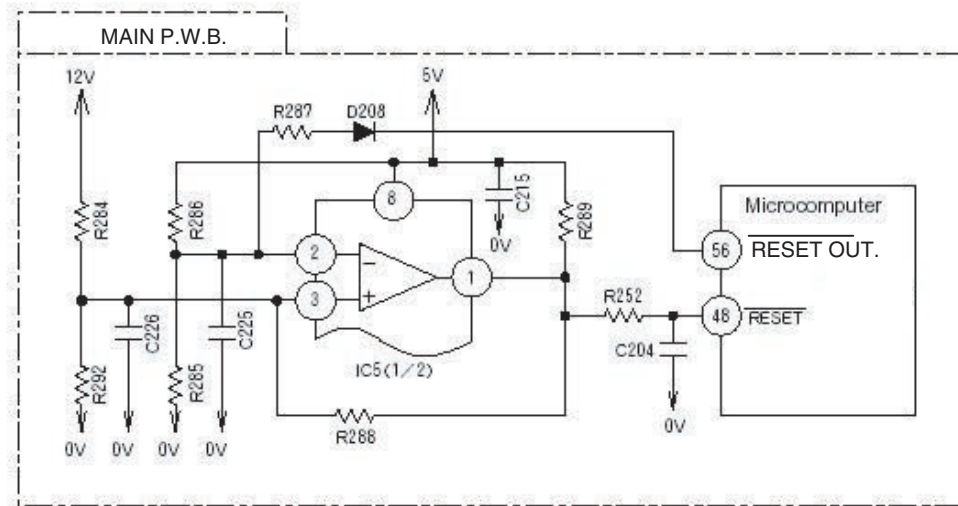
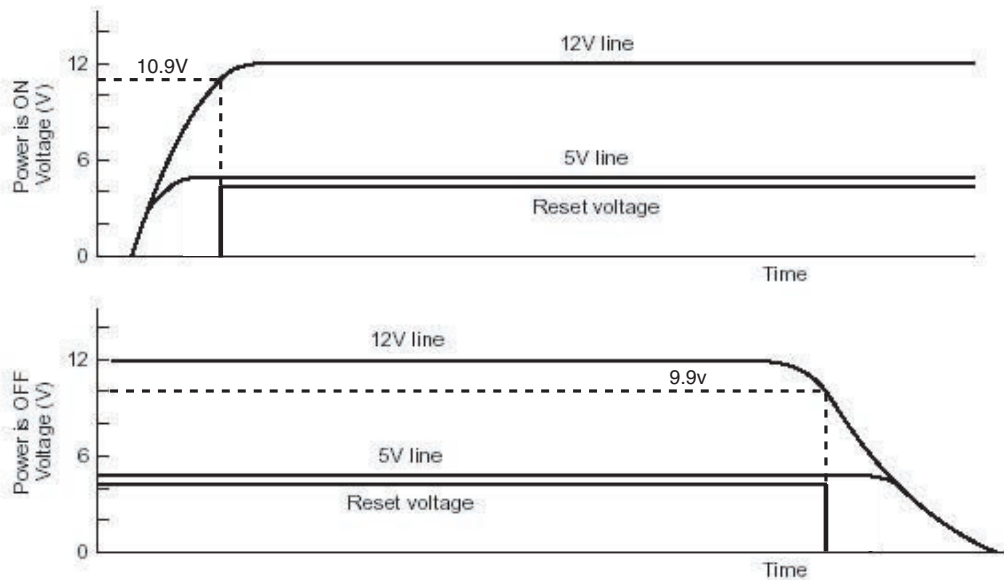

Fig. 6-7
Fig. 6-8
The reset circuit initializes the microcomputer program when Power is "ON" from "OFF". Low voltage at pin (48) resets the microcomputer, and HI activates the microcomputer. Fig. 6-7 shows the reset circuit and Fig. 6-8 shows waveform at each point when power is turned on and off.